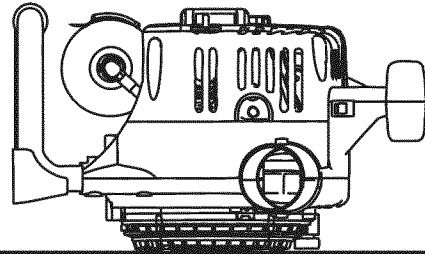

Fig. 2
2. Place the unit (cage side down) on a level surface (Fig. 2).